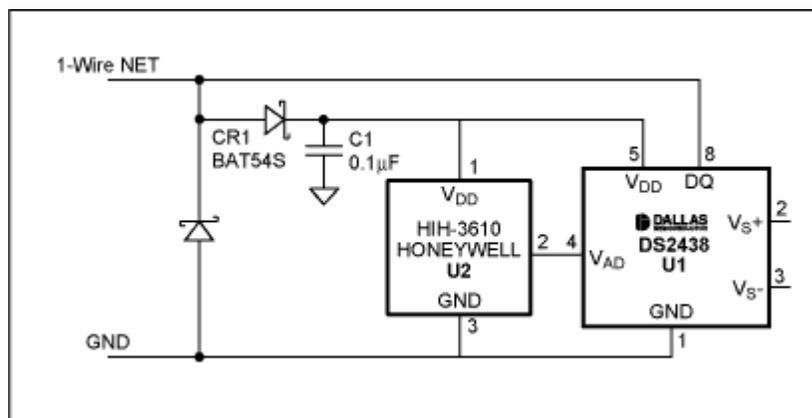

Figure 3. A DS2438 with parasite power is ideal to construct a humidity sensor.
Humidity is an important factor in many manufacturing operations and also affects personal comfort. With the proper sensing element, it can be measured over the 1-Wire net. The sensing element specified here develops a linear voltage versus relative humidity (RH) output that is ratiometric to supply voltage. That is, when the supply voltage varies, the sensor output voltage follows in direct proportion. This requires measuring both the voltage across the sensor element and its output voltage. In addition, calculating true RH requires knowing the temperature at the sensing element. Because it contains all the necessary functions for calculating, the DS2438 with its two ADCs and a temperature sensor makes an ideal choice for constructing a humidity sensor. In Figure 3, the analog output of the HIH-3610 humidity-sensing element is converted to digital by the main ADC input of a DS2438. The bus master first has U1, the DS2438, report the supply voltage level on its  $V_{DD}$  pin, which is also the supply-voltage for U2, the sensing element. Next, the master has U1 read the output voltage of U2 and reports local temperature from its on-chip sensor. Finally, the master calculates true RH from the three parameters supplied by U1.